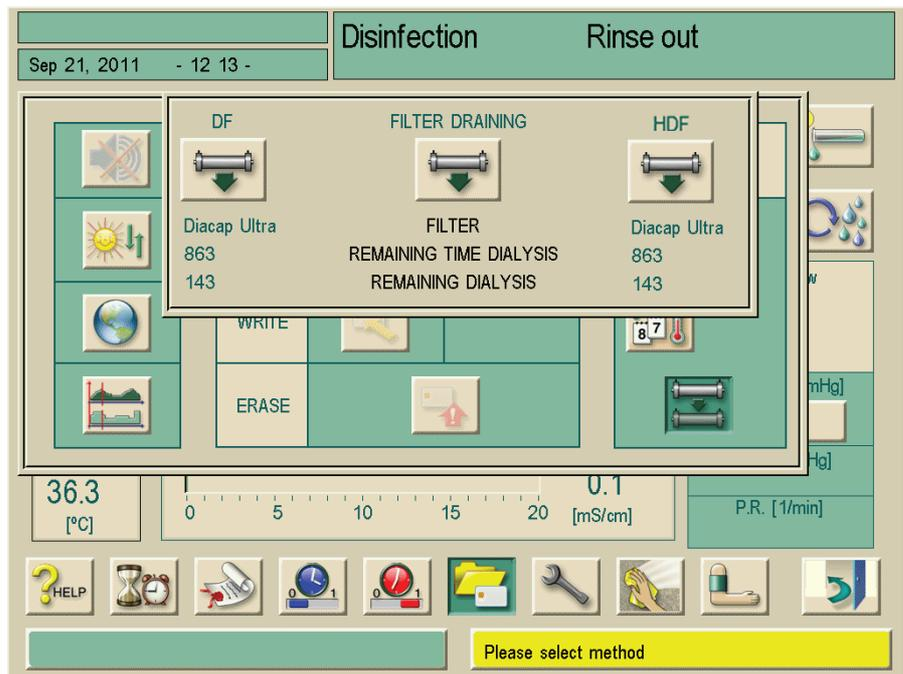

Fig. 11-29 "Filter draining" warning window
- Screen Disinfection selection is displayed, no disinfection program started (machine is in Rinse out (Fig. 11-29).